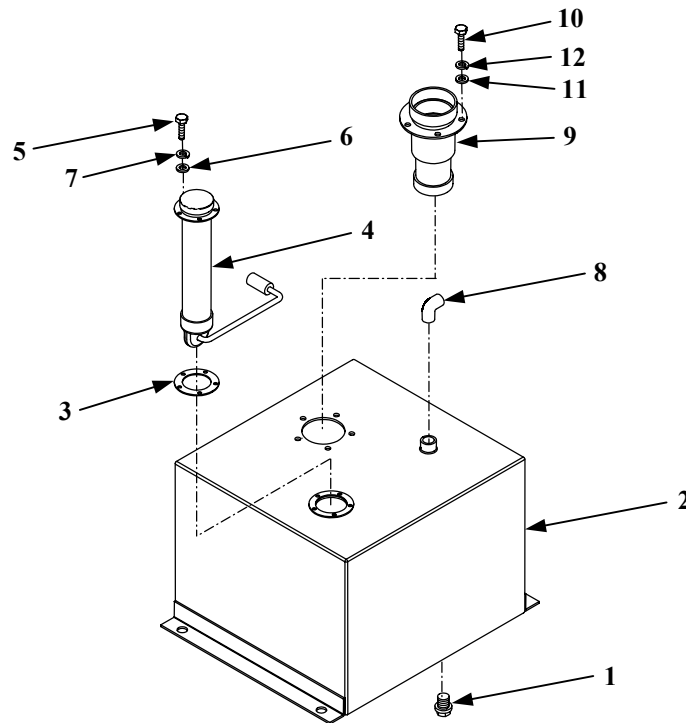

Figure 3. Auxiliary Fuel Tank Assembly
1. Apply thin coat of sealing compound (Item 12, WP 0078 00) to male threads of plug (1, Figure 3) and install in bottom of fuel tank (2).
2. Carefully install gasket (3) (Item 6, WP 0081 00) and fuel gauge (4) on fuel tank (2).
3. Apply thin coat of sealing compound (Item 17, WP 0078 00) on screws (5) and install five flat washers (6), lock washers (7) (Item 33, WP 0081 00) and screws (5).
4. Apply a thin coat of sealing compound (Item 12, WP 0078 00) on male threads of elbow (8) and install on fuel tank (2).
5. Apply a thin bead of silicone (Item 15, WP 0078 00) on mating surfaces of filler neck flange (9) and fuel tank (2). Install filler neck on fuel tank.
6. Apply a thin coat of sealing compound (Item 17, WP 0078 00) on screws (10) and install six flat washers (11), lock washers (12) (Item 33, WP 0081 00), and screws (10).